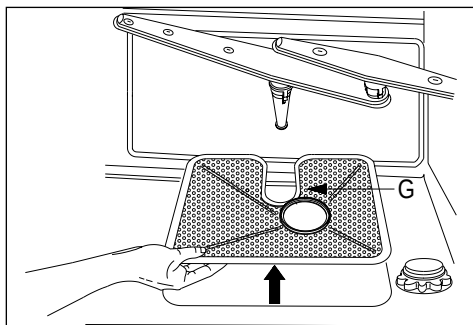

fig. 16d
- Remove the large filter (G) (see fig. 16d).